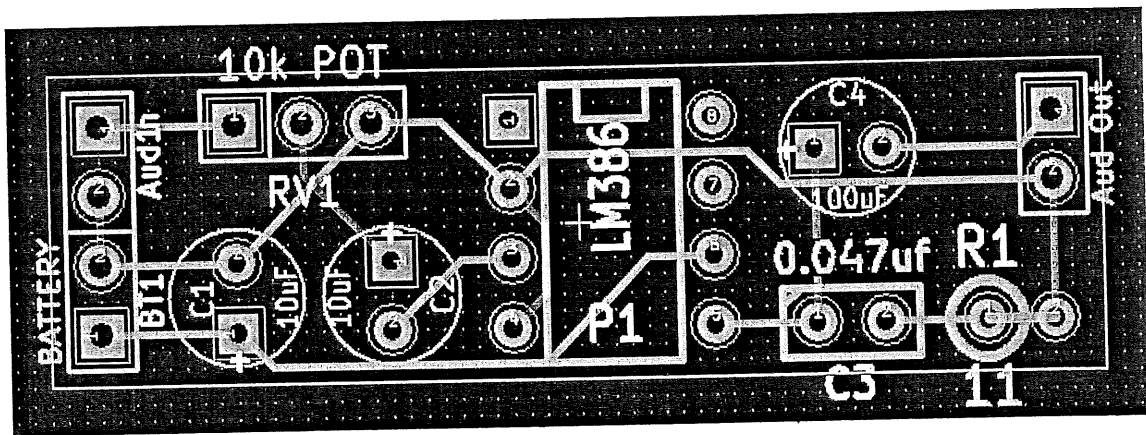

Figure 1
- c) Identify the best FOUR (4) schematic + PCB layout software package. (4 marks)
- d) Refer to Figure 1.